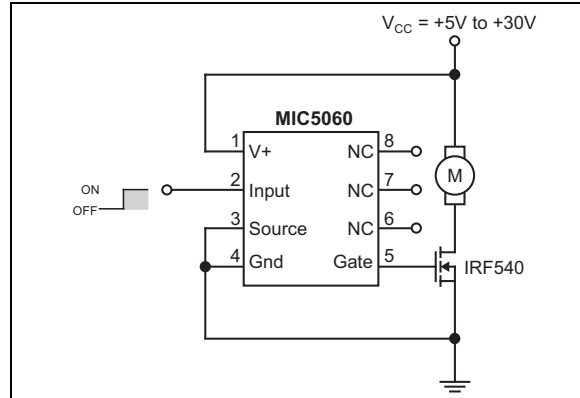
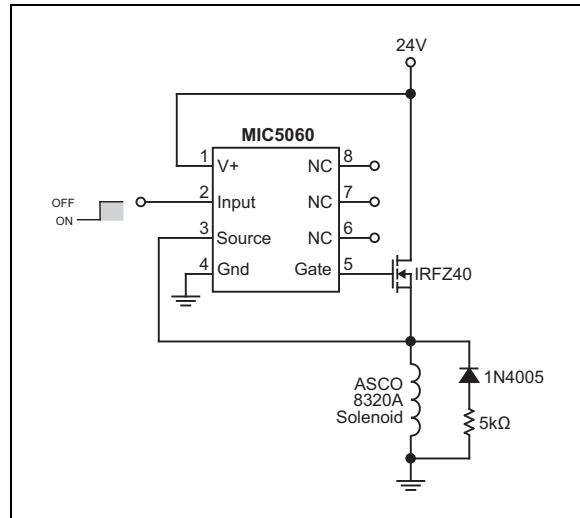
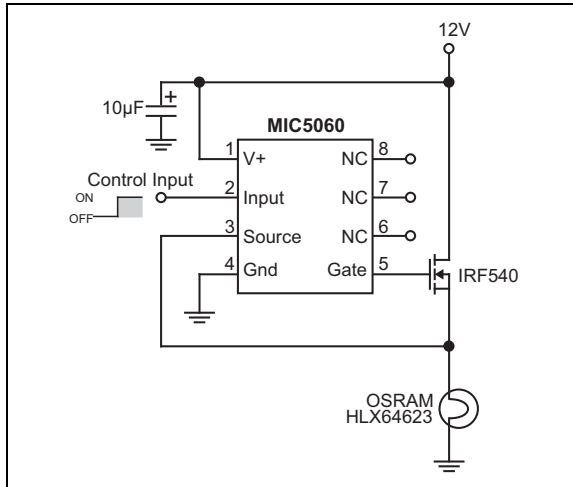
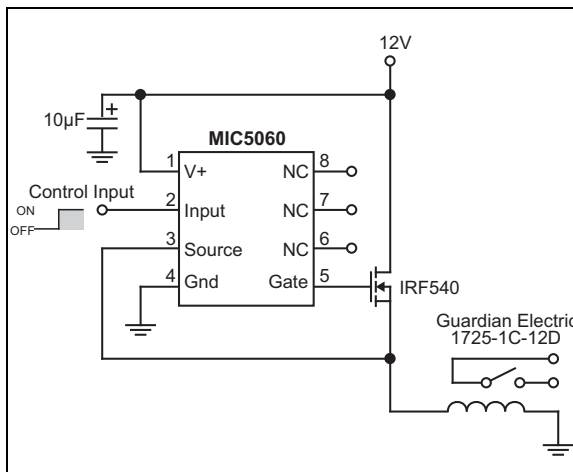

FIGURE 5-2: DC Motor Speed Control/Driver.
FIGURE 5-3: Solenoid Valve Driver.
FIGURE 5-4: Halogen Lamp Driver.
FIGURE 5-5: Relay Driver.
- Updated descriptions of Figure 5-2, Figure 5-3, Figure 5-4, Figure 5-5.